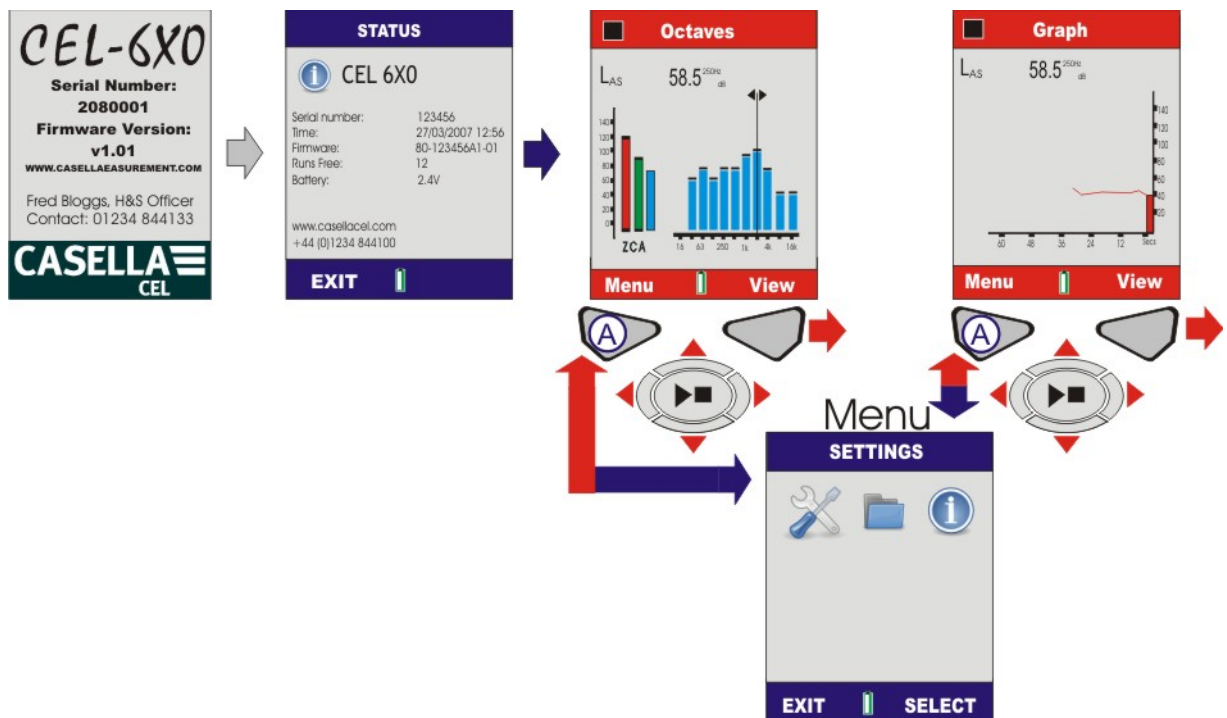

Figure 3 Switch ON the CEL-6X0
A. SWITCH ON the CEL-6X0 INSTRUMENT (Refer to Figure 3)